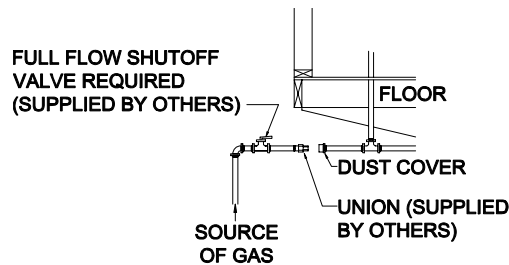

Figure 68. Gas service connection
3. **Remove cap.** Remove the protective cap from home inlet pipe and install a full flow shut-off valve at the supply inlet (**Figure 68**).